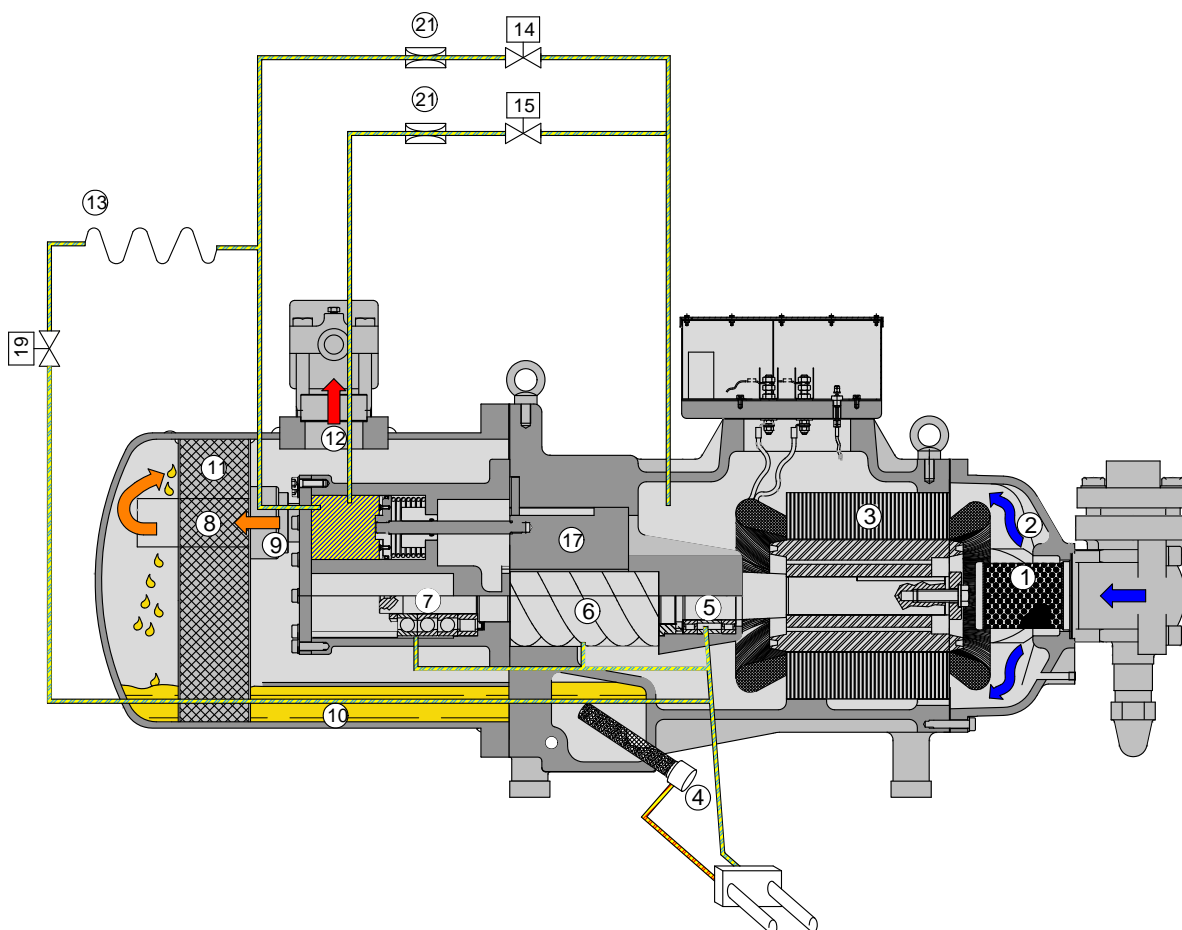

Fig. 9: diagram of the internal oil circuit for lubrication and operation of the slide valve;
The lubricant is held in the bottom of the housing and in the oil separator. As shown in Fig. 9, the oil separator of the RS3 compressors is connected directly to the front of the compressor flanged casing.
The high-pressure oil-gas mixture undergoes to a separation process in the 'DEMISTER', part (11) in Fig. 9 (see paragraph 3.4 'Oil separation'); then the oil is collected at the bottom of the oil separator while the gas leaves the compressor through the discharge shut-off valve located on top of the oil separator.
- ✓ actual filtering of the discharged gas by the "DEMISTER" (part (7) and (11) respectively in Fig. 9; variation in direction and speed of the compressed refrigerant-oil mixture).
The compressors are fitted with a high efficiency oil filter. In models RS3-H040÷060/L030÷050 this is positioned inside the compressor, and therefore to be inspected the discharge bell and the oil separator need to be removed. In the remaining models of the RS3 series, on the other hand, the oil filter is positioned on the bottom of the crankcase, as shown in Fig. 93, and as a result it is easily accessible from the outside of the compressor. For further details on the position, see chapter 8: "*Dimensional drawings and packaging*".